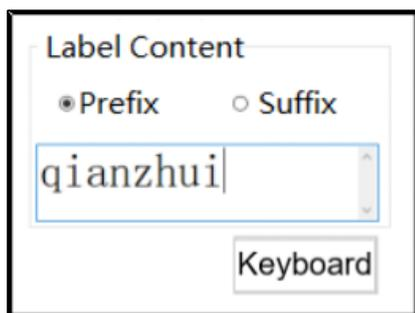
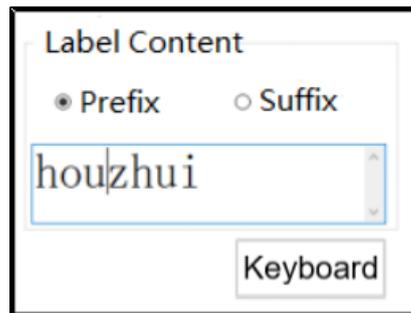
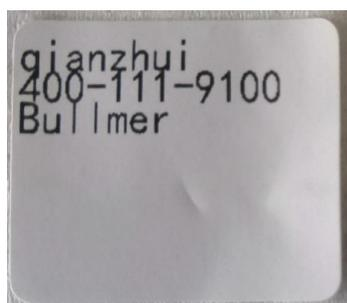

Fig2-13 Input "Qianzhui"
Fig2-14 Input "Houzhui"
Fig2-15 The prefix print
- (1) Please make sure that the label contents in the layout will not exceed the printing range of the label paper. If so, please adjust font size and line spacing.
- (2) Under the "System Parameters" interface, look for the "Label Content" column. Refer to Figure 2-13 for prefixes and Figure 2-14 for suffixes.
- (3) After setting, please click "Refresh Parameters".
- (4) Complete the labeling task in accordance with "Basic labeling operations in Section 2.5."
As shown in FIG. 2-13 /FIG. 2-14, select prefix/suffix in the "Label Content" column of "System Parameters". Input "Qianzhui" and "Houzhui" respectively. The final effect is shown in Figures 2-15 and 2-16.